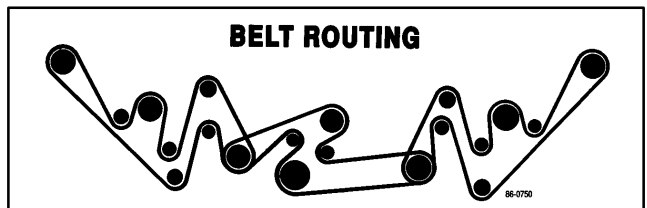

Figure 26
10. Route new belt around appropriate pulleys as shown in figure 26.